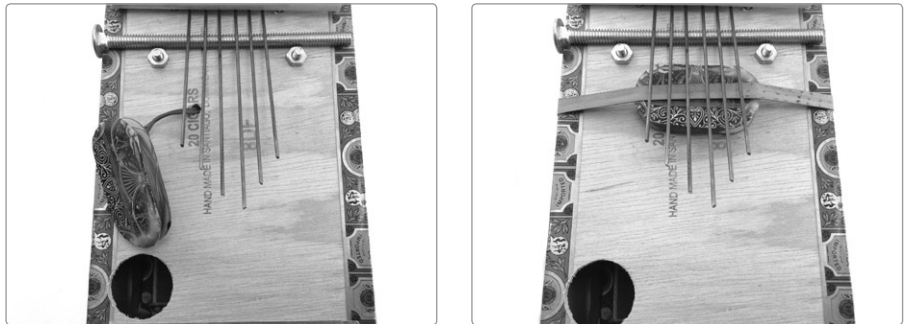

FIGURE 11-19: *Mounting the magnetic pickup*
Step 24 Mount the pickups, starting with the piezo pickup. Flip the kalimba over, open up the box, and squirt a pea-sized dab of silicone-based household glue on the piezo pickup sweet spot you marked earlier. Press the piezo into place brass side down and hold it firmly for a good 30 seconds. It should stay in place, but avoid bumping or jostling it for the remainder of this step. Turn the kalimba back over and carefully feed the leads of the magnetic pickup through the 3/16-inch hole you drilled in the previous step (see the left image in Figure 11-19). Smear a generous dollop of glue on the soundboard where you want to mount the magnetic pickup. Press the magnetic pickup into the adhesive, adjust it so that it's centered beneath the tines, lash it in place with a thick rubber band, and double-check the alignment and centering of the pickup (see the right image in Figure 11-19). Leave everything to dry for 30 minutes or so.